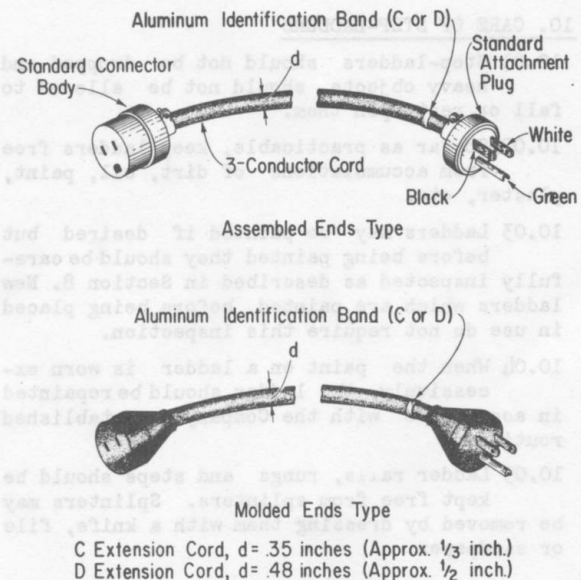

Fig. 1
1.07 A cord, such as the C or D extension cord shown in Fig. 1, is used when an extension cord is required to connect a tool, test set, or other apparatus equipped with a 3-wire grounding type power cord.